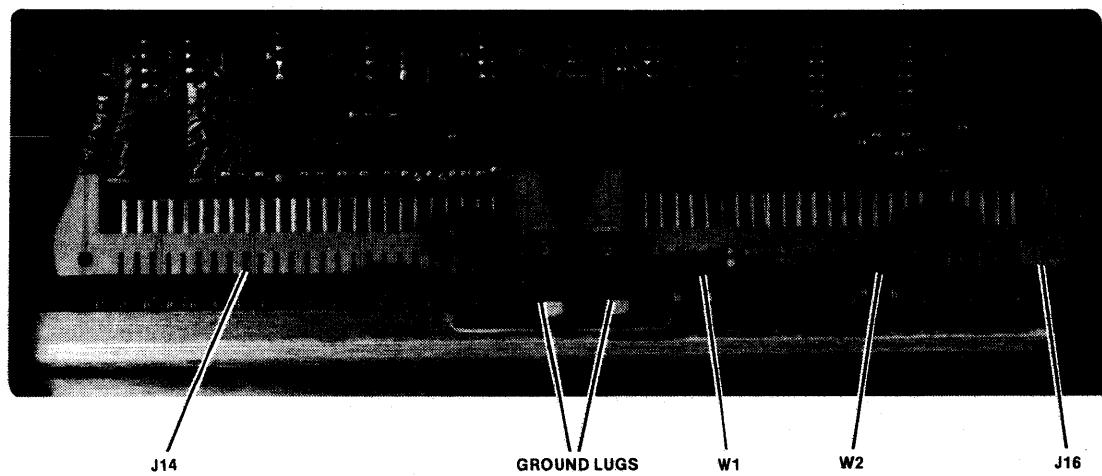

Figure 5-4. Mainframe Cable Port Details
- i. Refer to figure 5-4 and remove jumpers W1 and W2 from underneath connector J16 (accessible through mainframe cable port). Save port covers
- q. Refer to figure 5-4 and remove jumpers W1 and W2 from underneath connector J16 (accessible through mainframe cable port). Save port covers and jumpers in case expansion chassis is disconnected from mainframe in future.